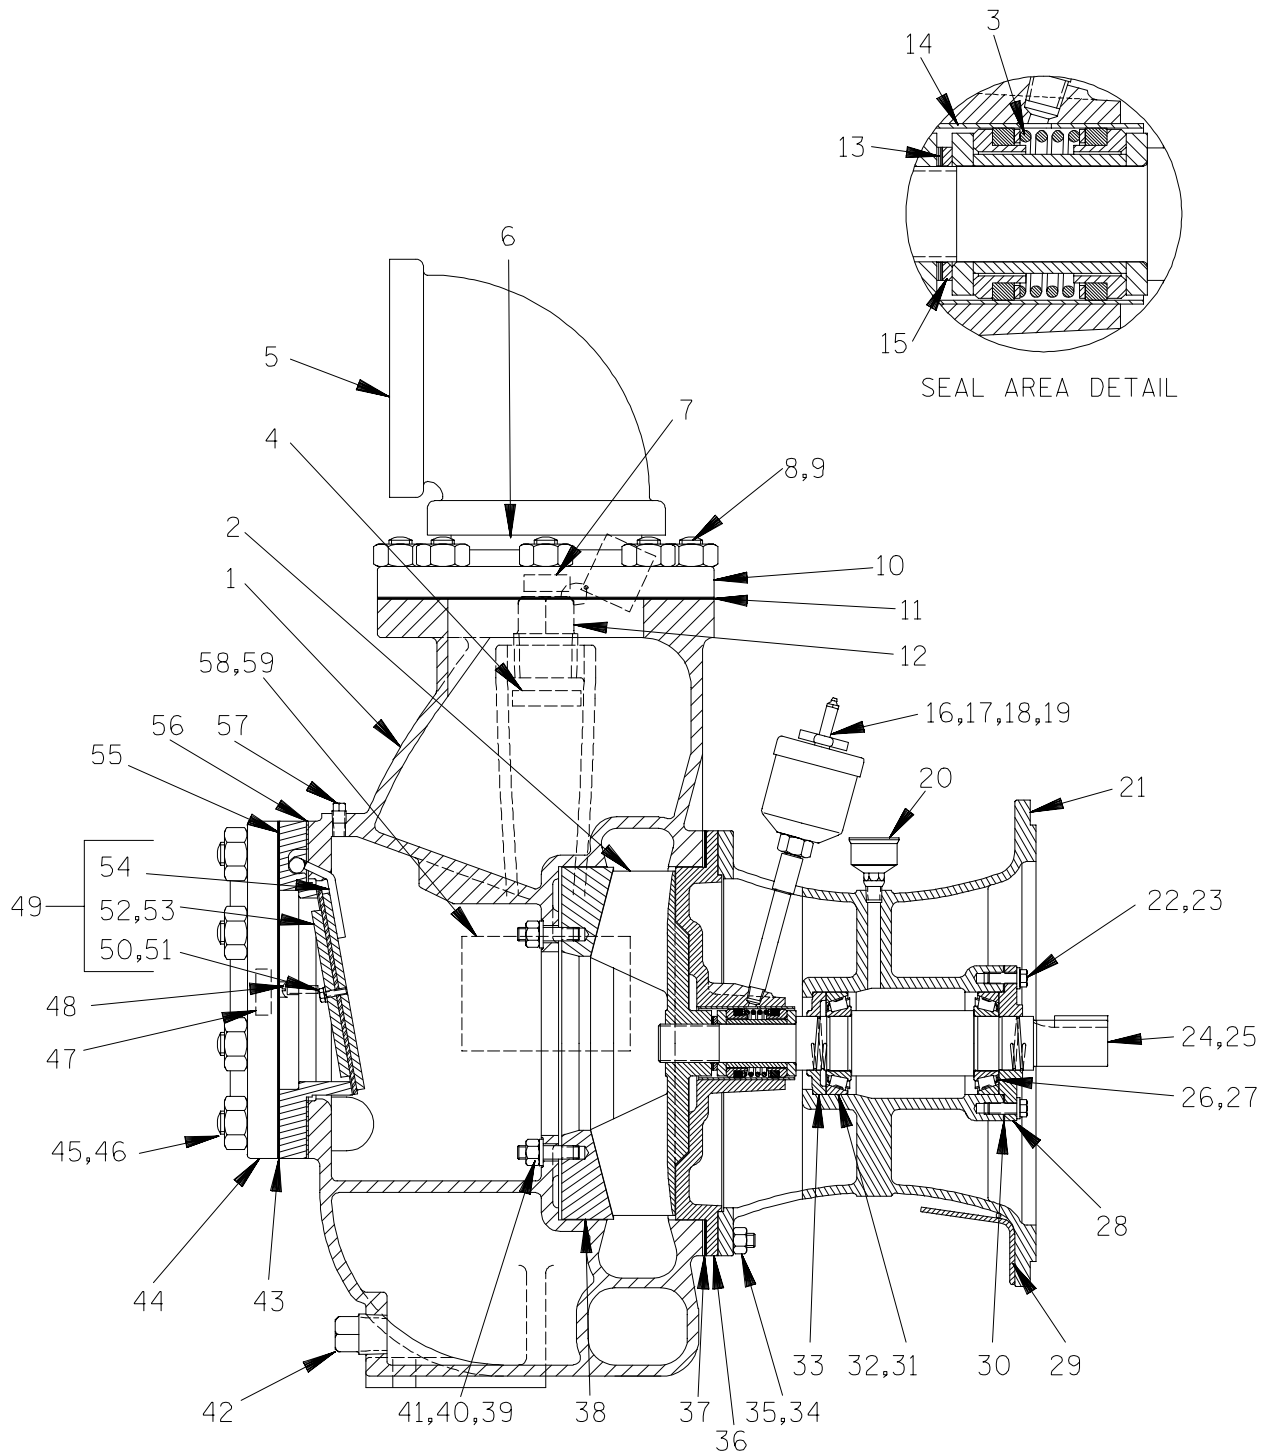

Figure 2. Pump End Assembly 86A2-(SAE 4/10)
(Figure 2)
As the assemblies separate, the flexible portion of the coupling assembly (3) will remain on the shaft. To remove the coupling from the shaft, unscrew the two allen head setscrews from the bushing (2). Screw one of the setscrews into the puller hole on the circumference of the bushing. As the coupling and bushing separate, remove the bushing, and slide the coupling off the shaft. Remove the shaft key (22, Figure 2).